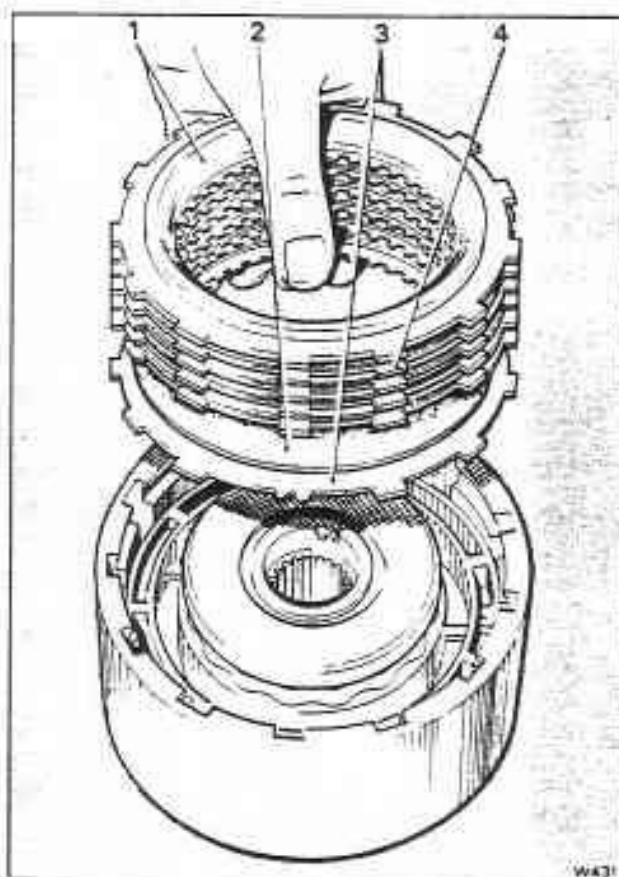

Fig. T18-11 Fitting the direct clutch plates
9. Lubricate the four flat steel clutch plates, five composition faced plates and one waved steel plate with clean transmission fluid. Then fit the plates into the clutch housing (see fig. T18-11). Commence with the waved steel plate and then alternate composition and steel plates.